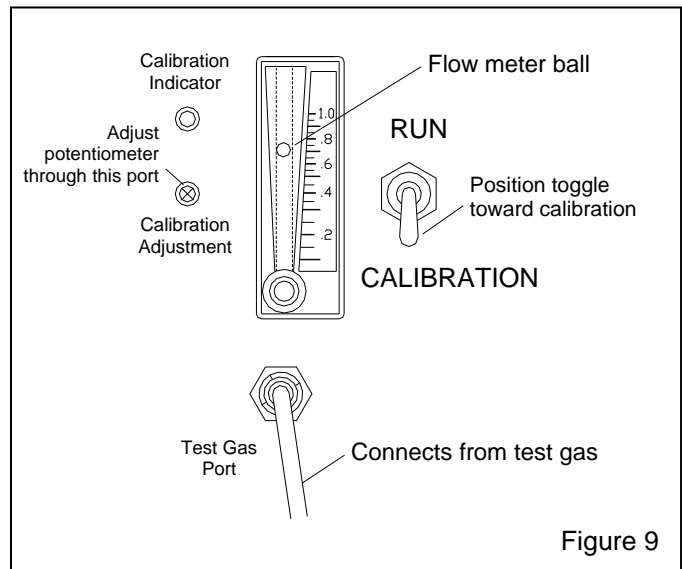

Figure 9
4.5.1 Open the instrument case-cover to access the interior faceplate. Take care not to introduce blast environment contaminants into the instrument when the case is open. See Figure 9 for faceplate-calibration testing and calibration callouts.